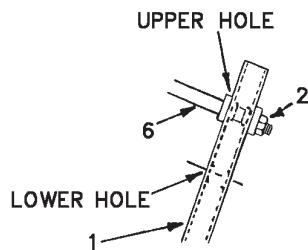

Figure 4
a. Mount the shaft (6) in the upper hole of the support (1) to assure proper clearance for the wire reel (7). See Figure 4.
b. Mount the wire reel (7) on the shaft (6).